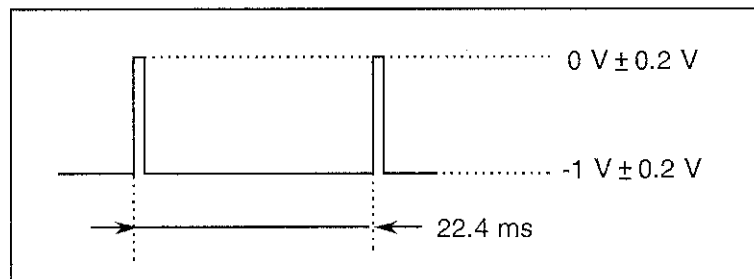

Figure 9-3 Waveform of the PATTERN TRIGGER Output
- (8) If the waveform on the oscilloscope has the period shown in Figure 9-3, the PATTERN TRIGGER signal is evaluated as normal.